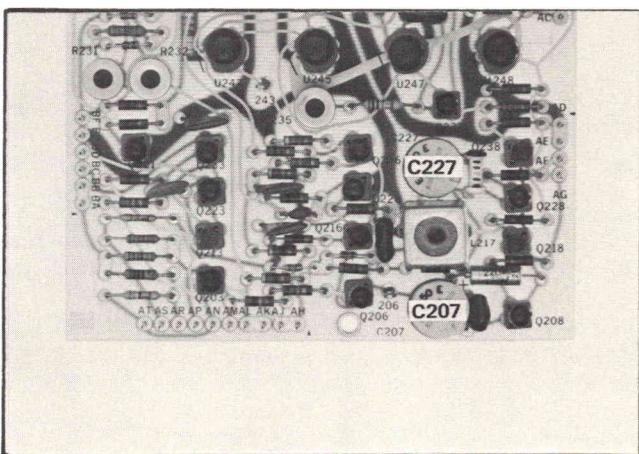

Fig. 5-30. Bar Timing board adjustment locations.
- g. ADJUST—C207 (see Fig. 5-30) until the falltime of the (Split Field) blue bar is coincident with the -I, W, Q, B black bar.